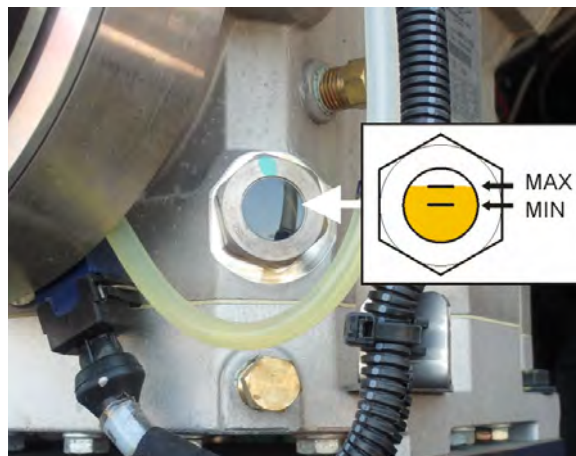

FIGURE 18: R.H. SIGHT GLASS
- R.H. sight glass: between  $\frac{1}{2}$  and  $\frac{3}{4}$  of sight glass height (Figure 18).